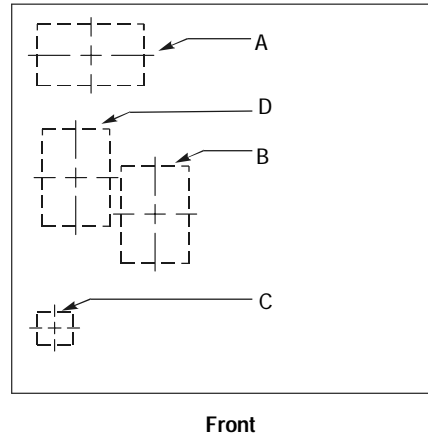

Figure 2.3 – Incoming Field Cable Conduit Cover (Top of cabinet shown)
- 6) Use conduit cover 'D' (shown in Figure 2.3) for field (DC) cable entry.
- 10) Use conduit cover B (see Figure 2.3) for the load cables (AC).